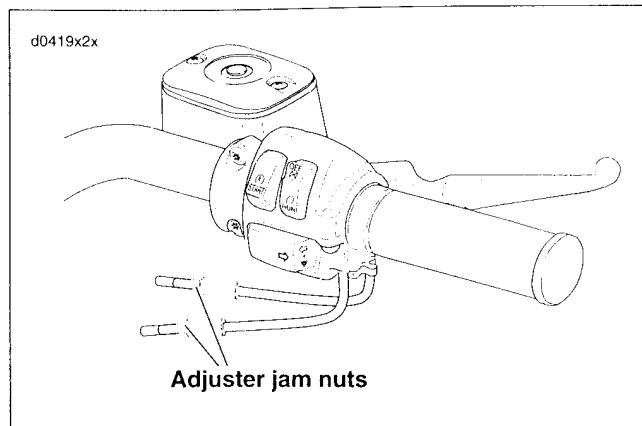

Figure 2-110. Handlebar Throttle Control
- See Figure 2-110. Loosen cable adjuster jam nuts. Screw throttle cable adjuster until it is a short as possible. Remove the two screws that hold the handlebar housing together to separate the upper and lower housings.